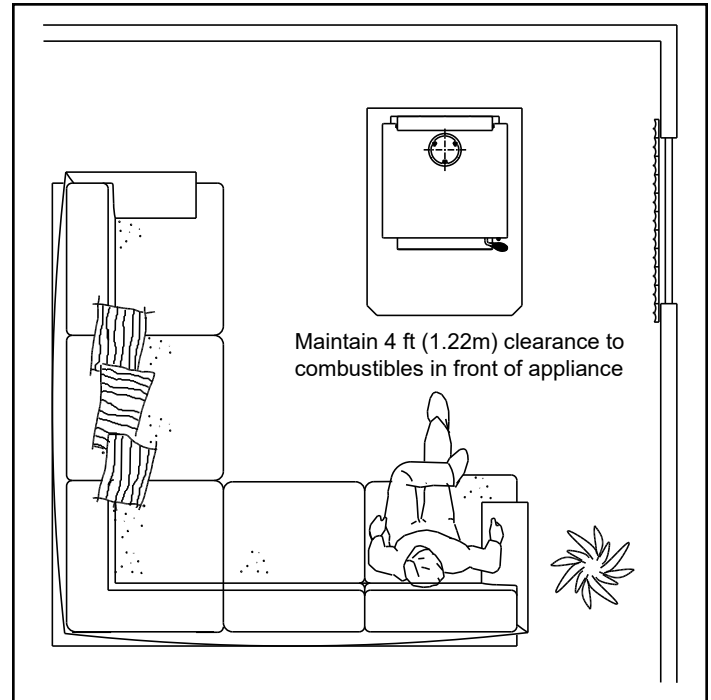

Figure 13.1
**NOTE:** Do NOT place combustible objects within 1.2m of the front of appliance (**Figure 13.1**).